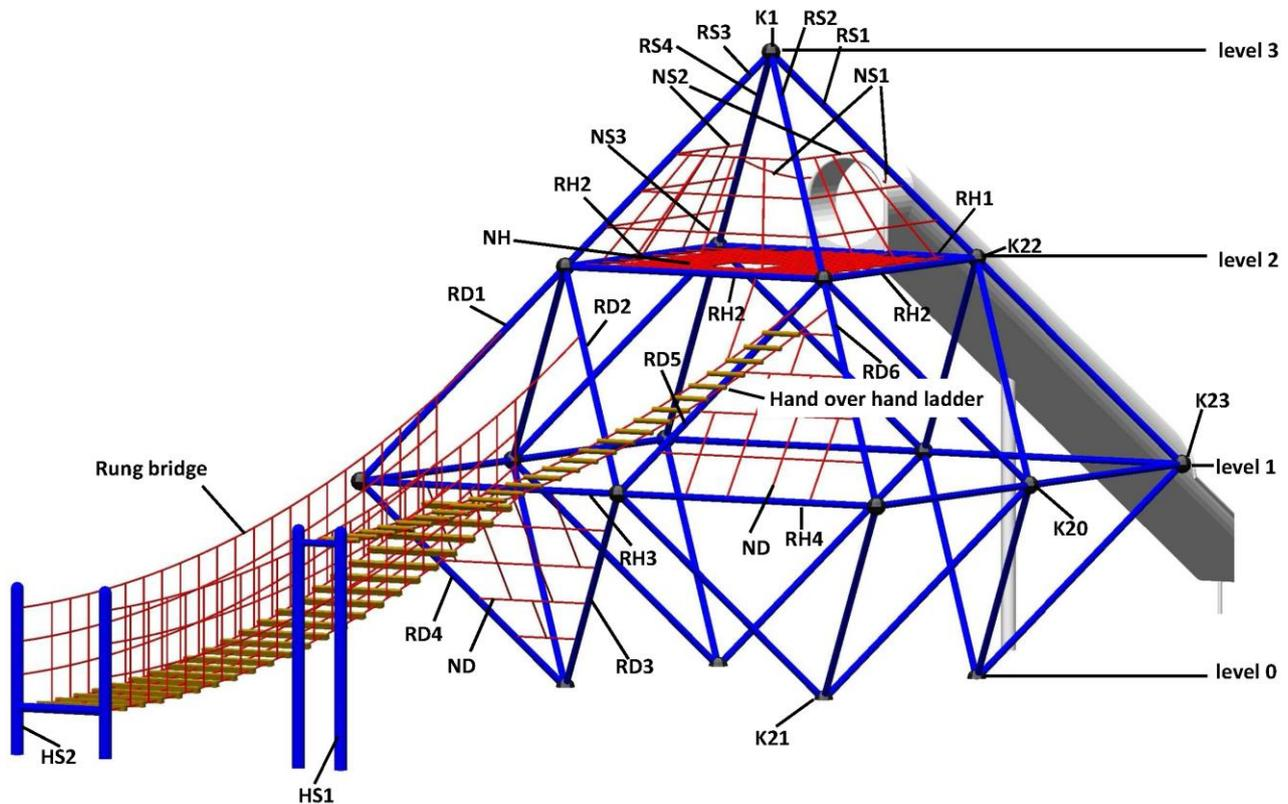
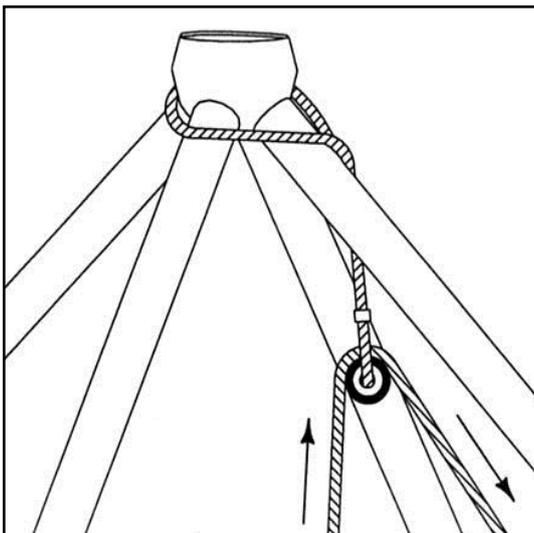
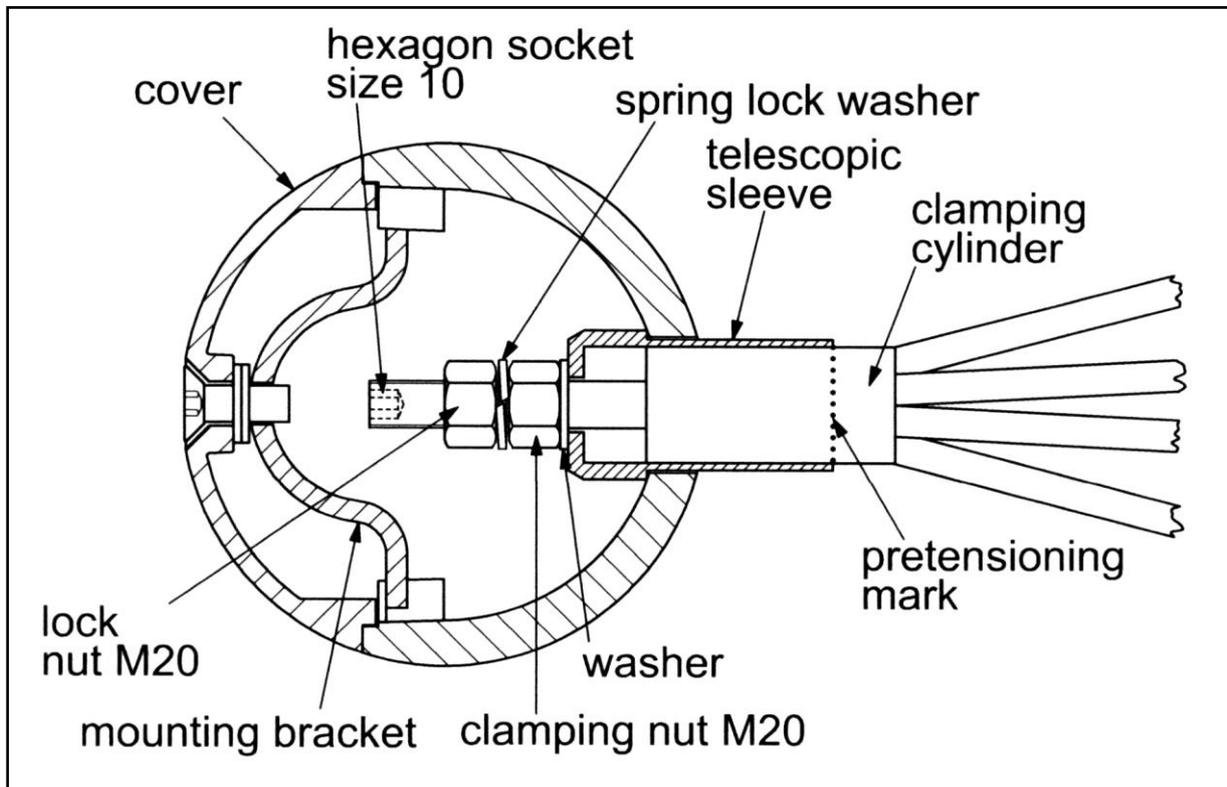

Figure 3
Figure 4
Figure 6
First of all, the foundation framework is to be taken down and the parts are to be used again. The structural arrangement of the pipes and connection joints may be seen in **figure 4**. **The code number which is stamped onto the hollow balls (K20, K21, K22 and K23) is always facing upwards.** Please ensure that tubes **RS1 until RS4, RD1 until RD6 and RH1 until RH4** are positioned correctly (**Figure 3**).
The marked vertex of the net (**K1**) is to be lifted, using the rope pulley, by means of the knotted rope as per **Figure 4** and fastened onto **connection joint K1** using the clamping nut M20, SW32. The clamping systems of the four connection joint points **K22** on **level 2** then follow. Push the clamping cylinder with the bolt M20 into the telescopic sleeve (**Figure 6**) and first of all, tighten it with the clamping nuts by only five turns to make for easier insertion into the spheres.
Now connect the tension points **K20** and **K23** at **level 1** in the same way like **K22**. Push the clamping cylinder with the bolt M20 into the telescopic sleeve (**Figure 6**) and first of all, tighten it with the clamping nuts by only five turns to make for easier insertion into the spheres.
The net **begins** to be tensioned on **joint K22** on **level 2** and then takes place, via the clamping nuts, using the SW32 special socket spanner which is supplied. It must be **tensioned up to the pretensioning mark (fig. 6)**. Tension is then created on joints **K20** and **K23** on **level 1** also to the pretensioning mark. The net finally has a good **uniform strong** tension.
After the tensioning the clamping nuts at all joints in level 1 and 2 (**K20, K22** and **K23**) are to lock with the supplied locking nut M20 SW32 including the spring lock washer. **When you tightened the lock nut, you can hold up the M20 bolt with an Allen key size 10 (figure 6)**.
Finally, the hollow spheres, which are still open, are to be sealed using the specially prepared sealing covers via a mounting bracket (**Figure 6**). Please fix all the covers that our logo is readable. Thank you.
As a next step, the horizontal net **NH (figure 3)** is to be installed on **level 2**. Make sure to mind the correct positioning of the entry opening, which has to be opposite to the slide connection. The screwing is done via the **ROWOCON connections (images 7 and 8)**. The screws as well as two special bits are provided.
- The first re-tensioning of the equipment must be carried out after it has been used for between 1 and 2 weeks. Re-tensioning is done using the clamping nuts M20 which are situated in the hollow spheres of the level 1 and 2 (**K20, K22 and K23**). After removing the cover, using a size 10 Allen key, the locking nut M20 SW32 is to loosen at first. The re-tensioning is carried out on clamping nut SW 32 **beyond the pretensioning mark**. All connection joints of levels 1 and 2 should be re-tensioned in a uniform fashion. After being tensioned, lock the clamping nuts with the locking nuts which you are removed beforehand (**Figure 6**). **Please note the right position of the spring lock washer between the two nuts. When you tightened the lock nut, you can hold up the M20 bolt with an Allen key size 10 (figure 6)**. Now the hollow spheres are locked with the prepared ball covers via the retaining bolt in the cover. Please fix all the covers that our logo is readable. Thank you.